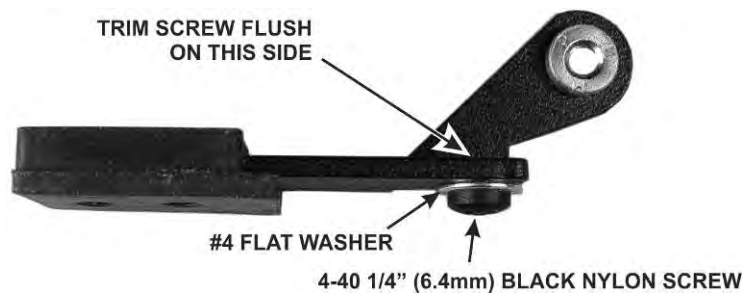

Figure 39. Placing Nylon Bumpers on the Tilt Legs.
- Install a flat washer and black nylon screw on each tilt leg as shown in Figure 39. Note the orientation of the screw as well as the rubber foot that you installed earlier. They must be as shown for the foot to work properly.